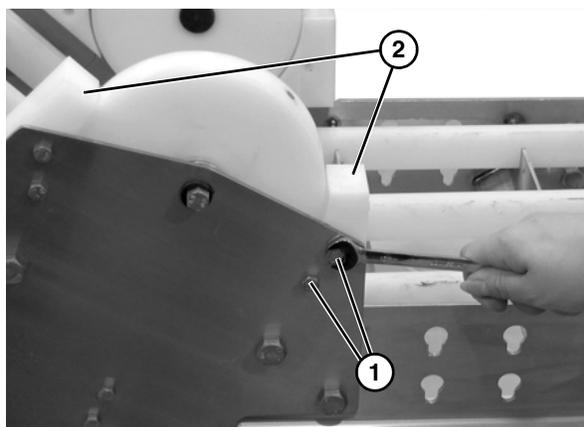

Figure 56
2. Remove two cap screws (**Figure 56, item 1**) on each side of the knuckle and remove the hold down roller guards (**Figure 56, item 2**). Repeat on opposite side of the conveyor.